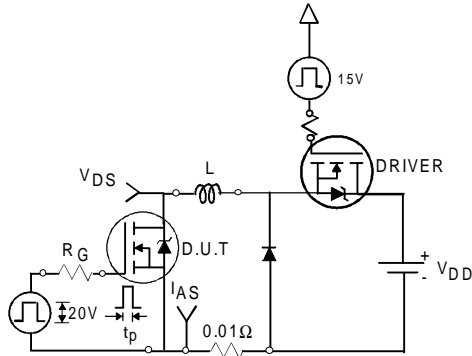

Fig 12a. Unclamped Inductive Test Circuit
- ③ $I_{SD} \leq 82A$, $di/dt \leq 310A/\mu s$, $V_{DD} \leq V_{(BR)DSS}$, $T_J \leq 175^\circ\text{C}$
- ④ Pulse width $\leq 400\mu s$; duty cycle $\leq 2\%$.
- ⑤ $C_{oss \text{ eff.}}$ is a fixed capacitance that gives the same charging time as C_{oss} while V_{DS} is rising from 0 to 80% V_{DSS} .
- ⑥ Calculated continuous current based on maximum allowable junction temperature. Package limitation current is 75A.
- ⑦ Limited by T_{Jmax} , see Fig.12a, 12b, 15, 16 for typical repetitive avalanche performance.
3. Equation below based on circuit and waveforms shown in Figures 12a, 12b.